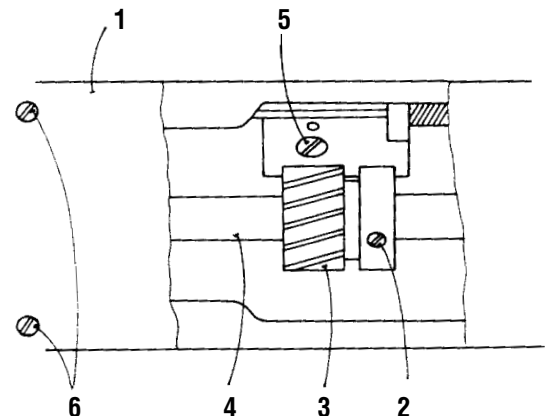
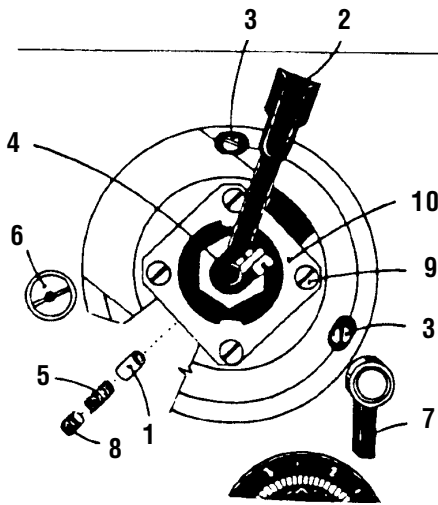

Fig. 17
Fig. 18
17. Setting of the zigzag stitch shifting (Fig. 17)
18. Setting of the controlling force of the zigzag stitch adjusting (Fig. 18, 19)
19. Taking up of the teeth clearance in the zigzag stitch gearing (Fig. 17, 18)
For taking up the teeth clearance in the zigzag stitch gearing there serves the eccentric pin (6, Fig. 18). If we want to change the clearance, we must dismount first the upper guard (1, Fig. 17) after having unscrewed four fastening screws (6, Fig. 17). After having loosened the screw (5, Fig. 17) which is placed on the riser in the arm space, proceed, in turning a bit the eccentric pin (6, Fig. 18), to taking up of the teeth clearance in the zigzag stitch gearing, namely between the toothed wheel on the complete cam and the toothed wheel (3, Fig. 17) on the upper shaft. Secure the adjusted position by tightening orderly the screw (5, Fig. 17).